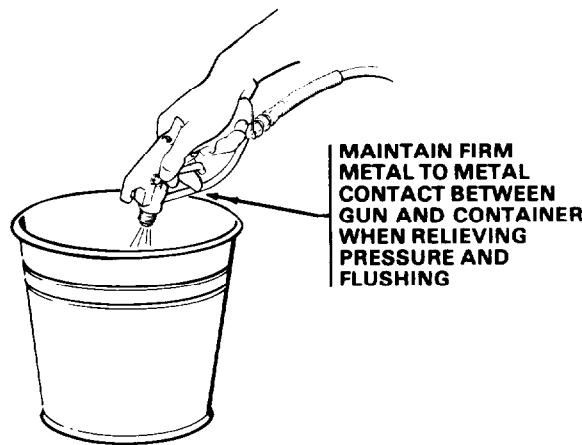

Fig 6
5. Point the spray gun into a metal waste container and with a metal part of the gun firmly touching the metal container, squeeze the gun trigger. See Fig 6. **This procedure helps reduce the risk of static sparking and splashing.** With the gun triggered, turn the ON/OFF switch to ON and slowly turn the pressure adjusting knob clockwise *just until* the sprayer starts. Keep the gun triggered until clean solvent comes from the nozzle. Release the trigger and engage the gun safety latch.